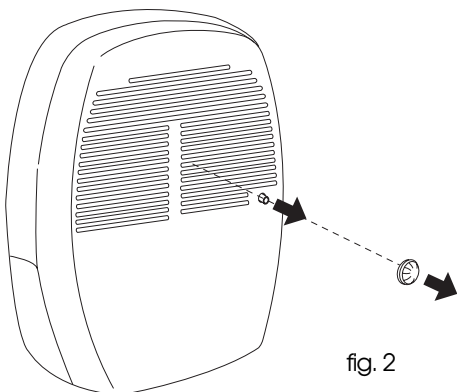

fig. 2
- 1) Remove the continuous drain cap (8) and the rubber bung (see figure 2).